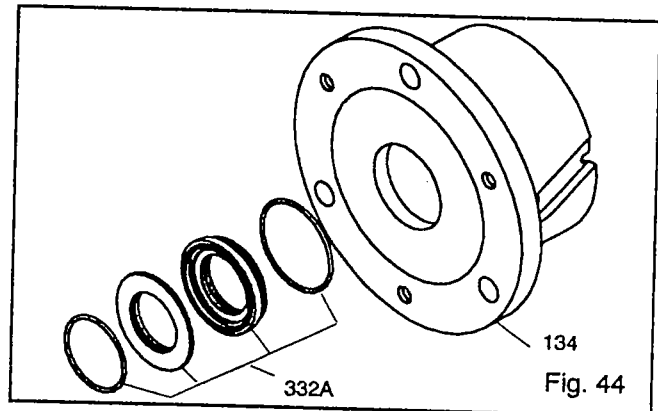

Fig. 44
10. Remove outboard labyrinth seal (332A) from bearing housing (134). Remove O-rings (497F), (497G) if necessary (Fig. 44).